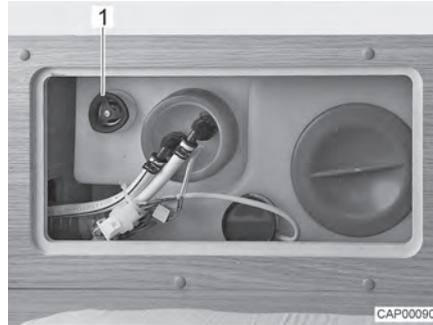

Fig. 108 Water tank with rotary handle
- Turn the rotary handle (Fig. 108,1) on the water tank in an anticlockwise direction as far as possible beyond the resistance to fully open the drainage opening.